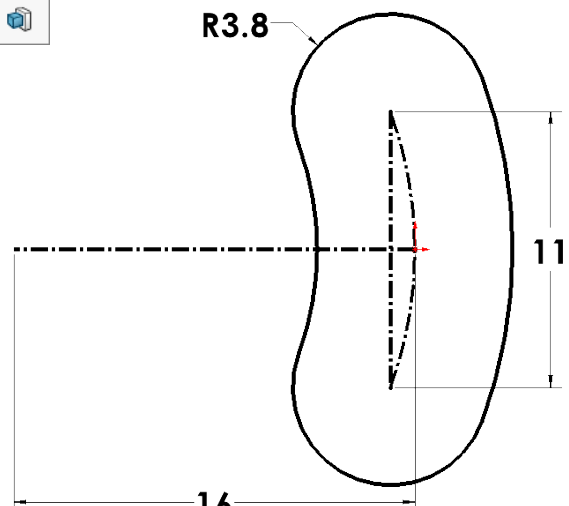

Fig. 7
Step 11. Click **Smart Dimension**  (S) on the Sketch toolbar.
Step 12. Add dimensions, **Fig. 7**.